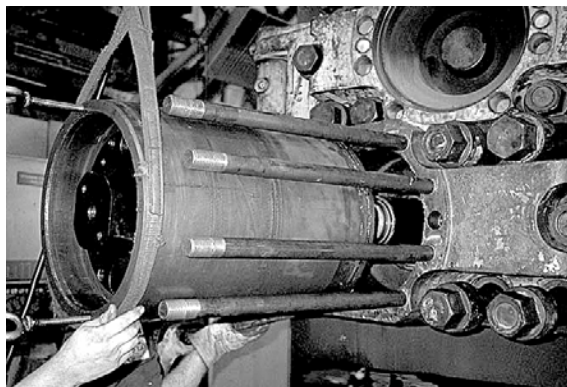

Figure 5-55. Typical Cylinder and Lifting Method
- e. Place a web-lifting strap around the cylinder and piston assembly and support the weight of the assembly. Use "come alongs" or other manually adjustable lifting devices to support the web-lifting strap (see Figure 5-55).